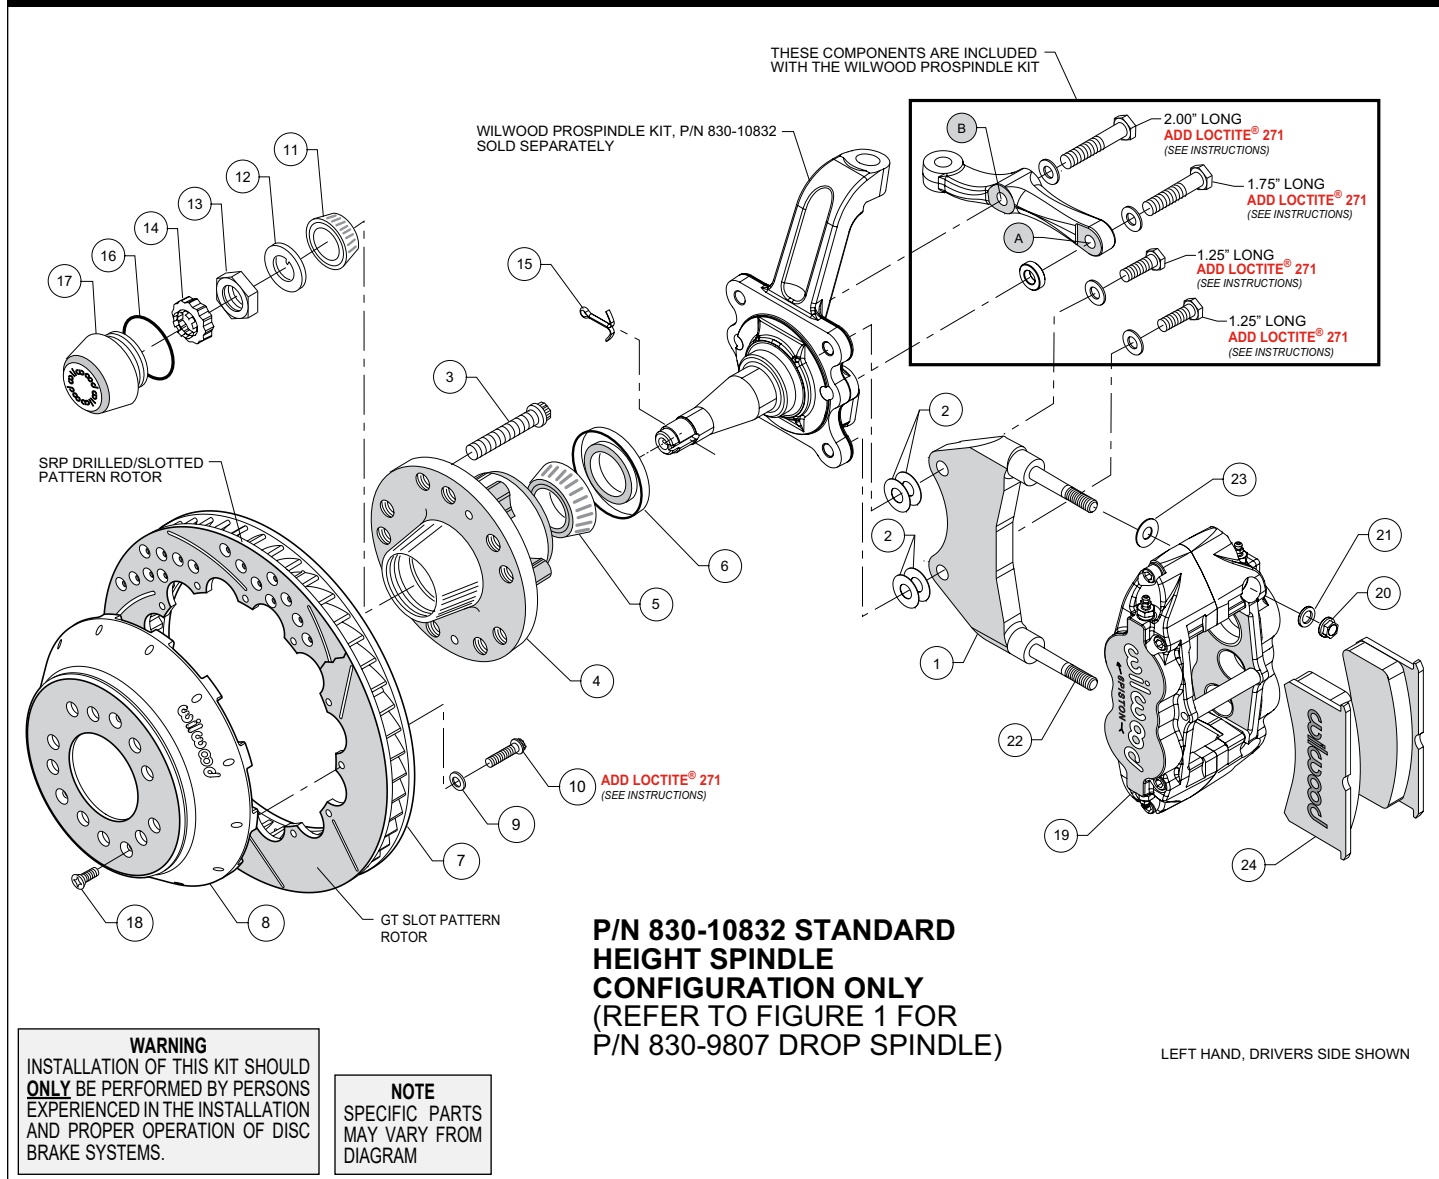

Figure 2. Installation Configuration For Standard Height Spindle, P/N 830-10832
- Orient the bracket as shown in Figure 2 and Photo 2. Install using 1.25" long bolts and .06" thick washers (from ProSpindle kit), and two .016" thick shims (2) on each bolt between the bracket and spindle, Figure 2. Temporarily tighten mounting bolts. **NOTE:** The bracket must fit squarely against the mounting points on the spindle. Inspect for interference from casting irregularities, machining ridges, burrs, etc. Later, after the caliper alignment has been checked, the mount bolts will be secured using red Loctite® 271.
- Orient the steering arm, and identify the hole marked 'A', as shown in Figure 2. Install using 1.75" long bolt, .06" thick washer, and .30" thick spacer (all from ProSpindle kit), Figure 2.
- Finish attaching the steering arm through the hole marked 'B', as shown in Figure 2. Install using 2.00" long bolt and .06" thick washer (from ProSpindle kit), Figure 2.